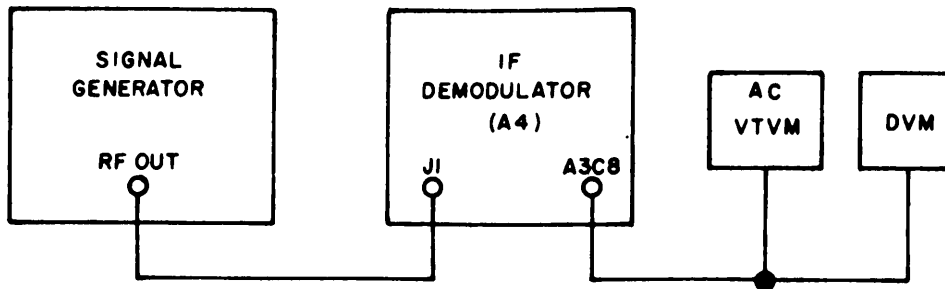

Figure 4-9. Test Setup, Gain Adjustable Ampl. & Diode Sw. (A4A3) Alignment
- (1) Construct the circuit as shown in Figure 4-9.
- (2) Adjust the Signal Generator for a 10 MHz carrier frequency, 1 kHz audio @ 50% modulation frequency and a signal level at -74 dBm. On the receiver, set the bandwidth for 200 kHz and the gain to AGC.
- (3) Using the card extender, extend card A3.
- (4) Adjust R13 for an approximate 1.2 Vdc reading on the DVM.
- (5) Measure and record the reading of the AC VTVM with the input signal present. The reading should be a maximum of 300 mV.